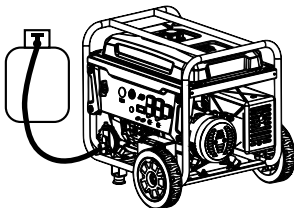

Figure 16 - Connect Propane Tank
9. Make sure LPG hose is safely secured from generator to tank and tank valve is open (see Figure 16).